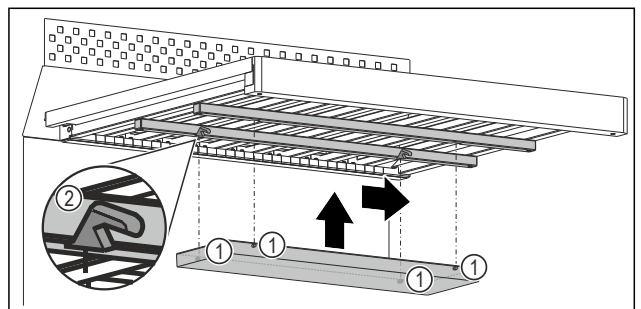

Fig. 99 Example illustration
- ▶ Insert each peg Fig. 99 (1) into the corresponding recess Fig. 99 (2) on the strips under the wooden grate.